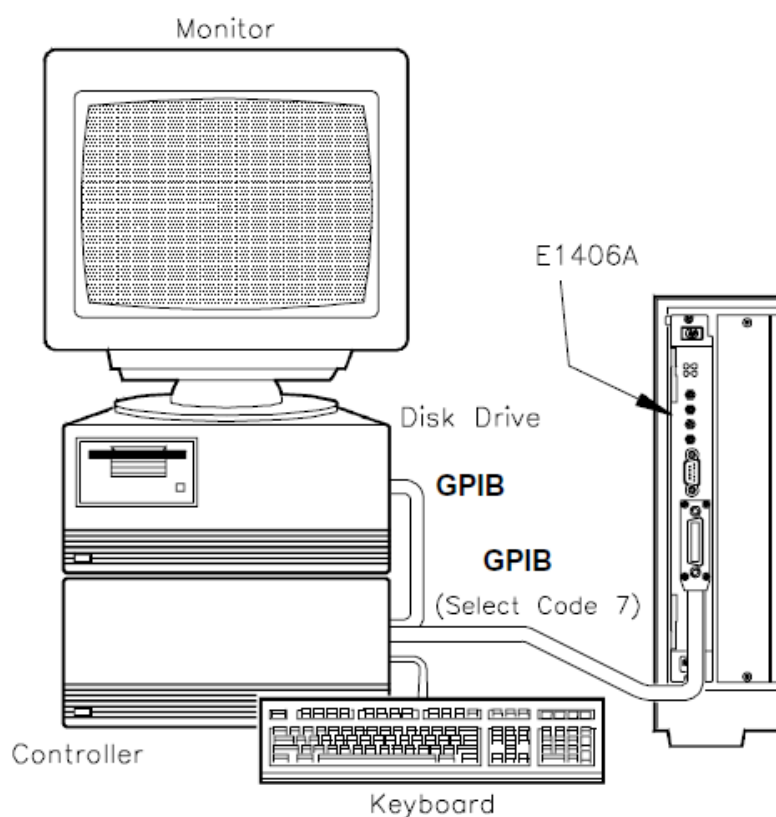

Figure 2-4 Test S-1: GPIB Power-On Test
- Connect computer to mainframe (see Figure 2-4)